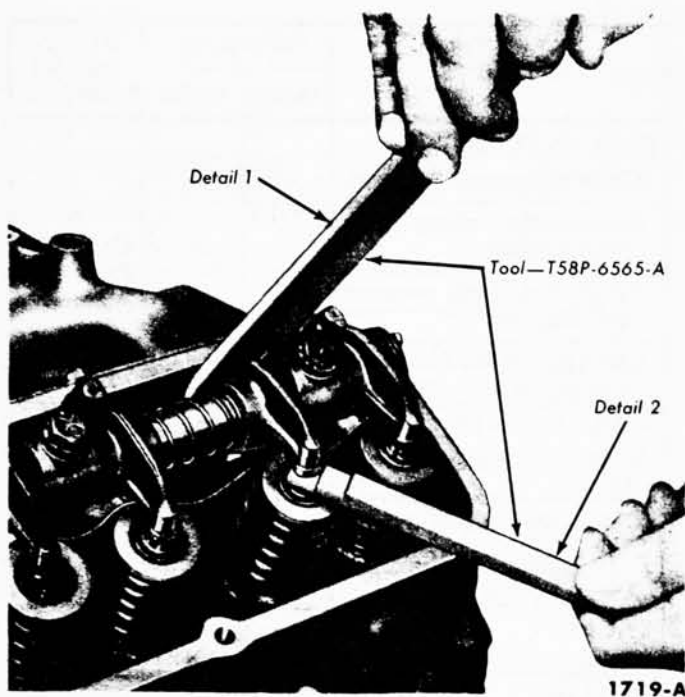

FIG. 13—Valve Clearance
1. Position the hydraulic lifter compressor tool on the rocker arm and slowly apply pressure to bleed down the hydraulic lifter until the plunger is completely bottomed (Fig. 13). Hold the lifter in the fully collapsed position and insert the clearance gauge (Fig. 13) between the valve